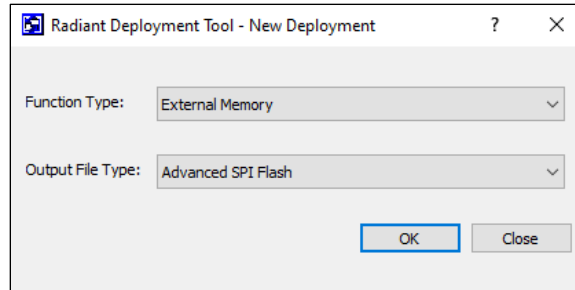

Figure 7.14. Creating New Deployment for Multi-Boot File
- In the Radiant Deployment Tool window, select **External Memory** as the **Function Type** and select **Advanced SPI Flash** as the **Output File Type** (Figure 7.14).